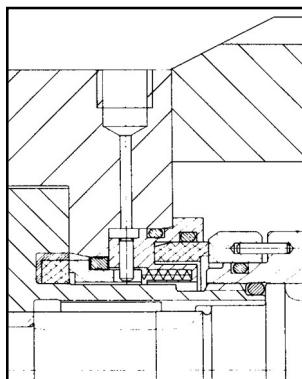

Figure 16
- a) To re-assemble, place O- Ring (51) in double seal housing (45), lubricate outside of static seat with a suitable lubricant compatible with the barrier fluid. Align holes in seal face with pins in seal housing (see figure 16) and push seat fully in.
- b) Fit O ring (46) to rotor retainer (28). Gently push seal seat squarely on to rotor retainer, aligning hole in rear of seal face with pin on the support ring. Ensure that the face is free to move against the springs.